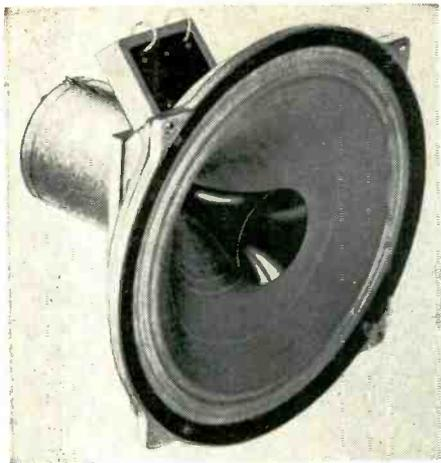

Fig. 37. A complete Stentorian coaxial speaker system, which comes with crossover network and is made by the British Whitely firm.
*Beam Instruments Corp., 350 Fifth Avenue, New York 1, N. Y.* Beam's Stentorian line of speakers is manufactured by a British firm, Whitley Electrical Radio Co., joining the growing influx of British-made sound products. Most Stentorians are coaxial units, like the 12-inch unit of Fig. 37, and come with crossover network. Single tweeters like the T12 in Fig. 38 can be bought separately. Low-frequency cutoff is 2,000 cps and power rating 15 watts. The much less expensive T10 is rated at 5 watts, with response to 16,000 rather than 20,000 cps, an insignificant frequency difference unless you are a dog. Beam also offers bass-reflex enclosures.
Fig. 38. This Beam Stentorian tweeter is the same one used in the coaxial assembly of Fig. 37, but is available separately with the mounting shown allowing it to be placed on any cabinet wall over a hole of suitable size. It is rated at 15 watts and is used with a 2,000-cps crossover.